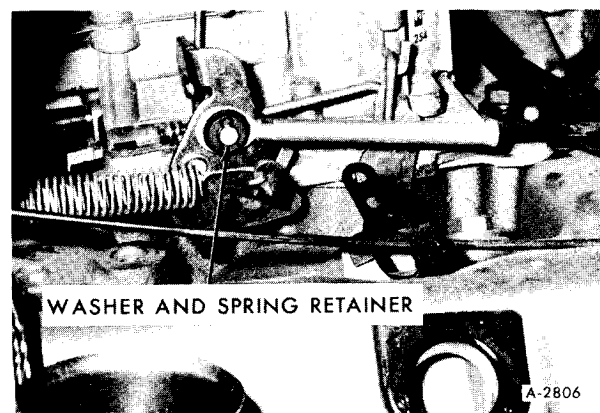

Figure 14
33. Install grommet and nylon sleeve into cable end and attach cable to carburetor lever with washer and spring retainer, see figure 14.